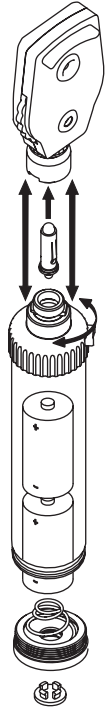

Fig. 2
Periodically check the battery condition, making sure that no sign of corrosion or oxidation is present, in case they have to be replaced, it is highly recommended to use new alkaline ones. For battery replacement see fig.2.
Remove Ophthalmoscope head as advised in operating procedure (See fig.2) .
- Once opened, insert the batteries paying attention to the direction of poles (see fig.2).